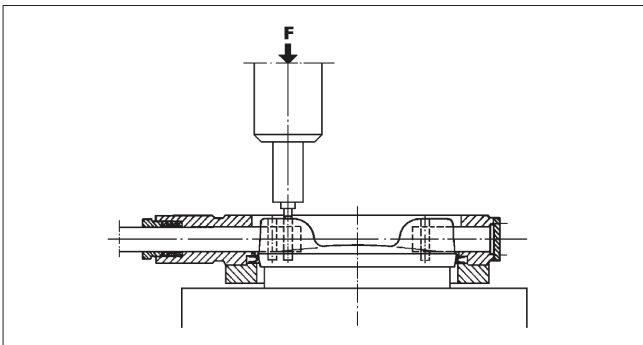

Fig. 17 Pressing the pins
- Support the disc well in a horizontal position during mounting of the pins. Push the new pins into the holes and press them in a press to final form (see Fig. 17). Use slightly larger pressing tool than the pin diameter. See Table 7 for forces.